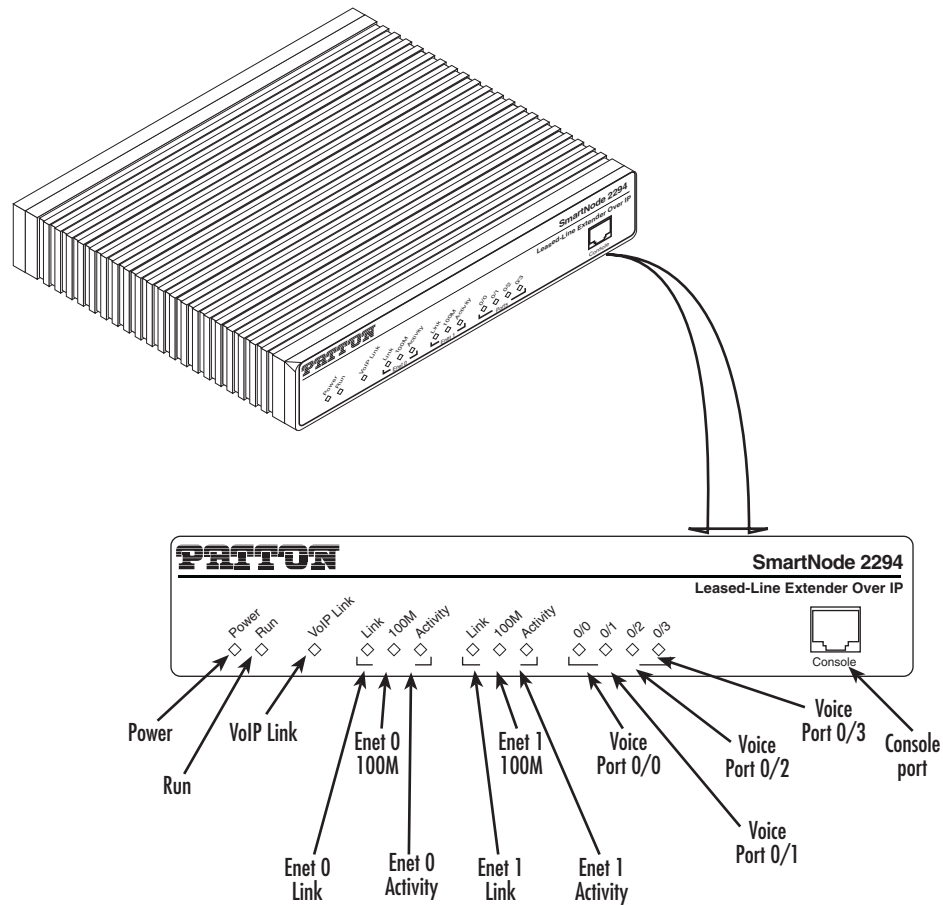

Figure 13. SmartNode extender front panel LEDs and Console port locations (SmartNode 2294 shown)
4. Verify that the green *Power* LED is lit (see figure 13).